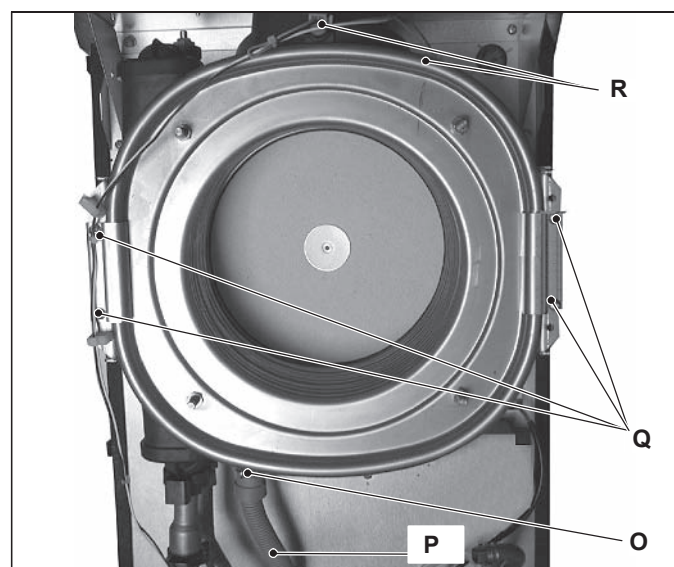

Figure 5.3
- 11 Using pliers, remove the spring O moving it downwards and disconnect the rubber pipe P (Figure 5.3).
- 12 Unscrew the screws Q and remove the clamps (Figure 5.3).
placed on the side of the connector (Figure 5.3).